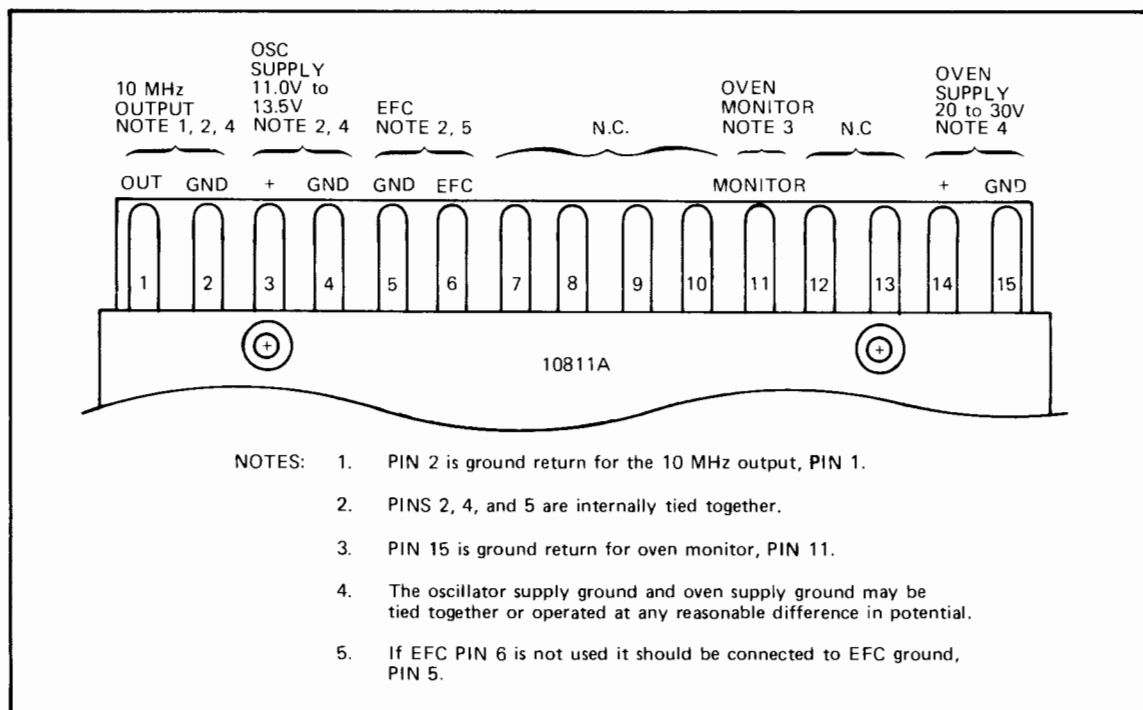
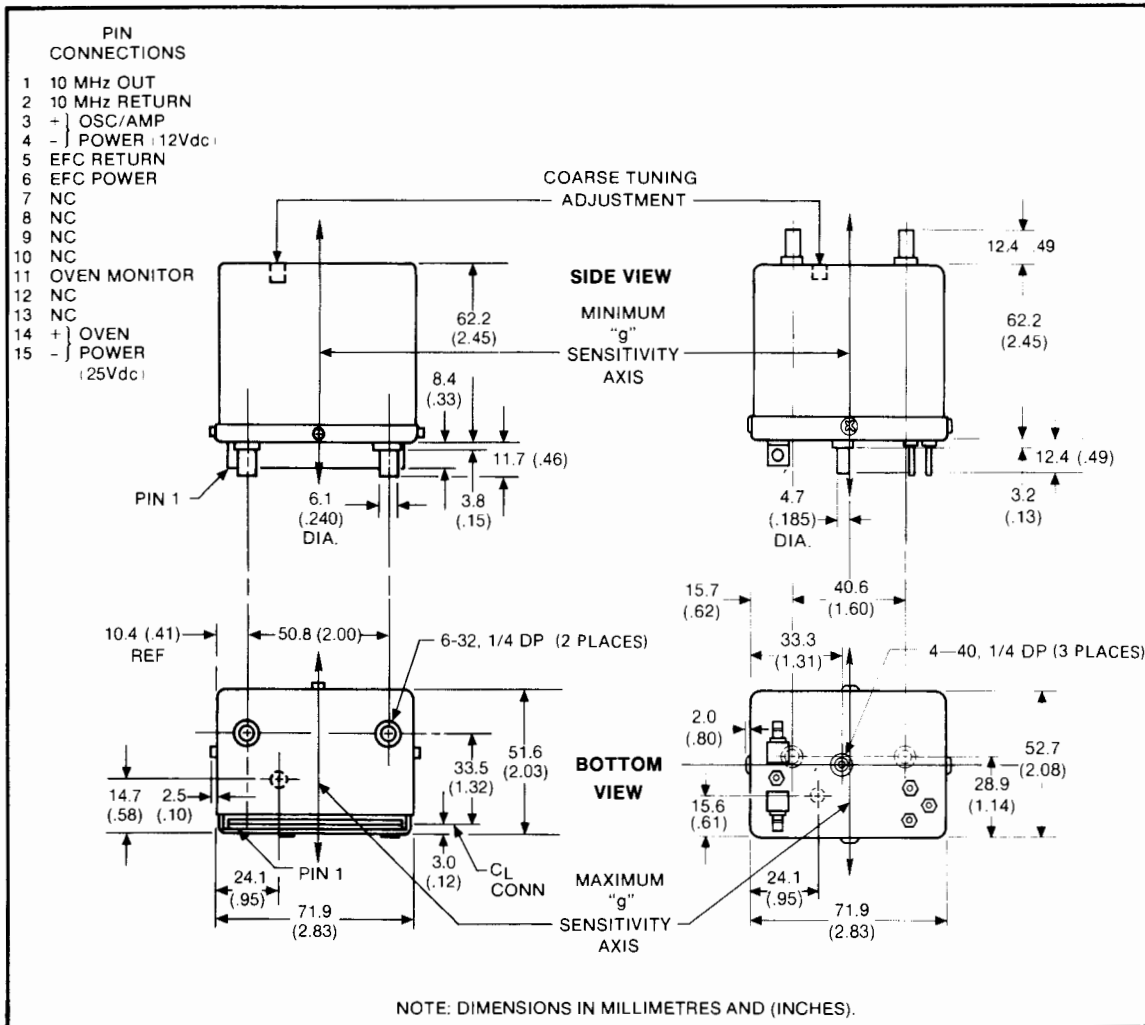

Figure 2-3. 10811A Supply and Output Connections
Figure 2-5. Mechanical Mounting Dimensions
2-21. The 10811A Oscillator requires a 15-pin printed circuit connector. The recommended connector is the CINCH 250-15-30-210 (HP 1251-0160). The 10811A can be secured with two 6-32 screws, 1/4-inch long. *Figure 2-3* shows the power supply connection for the 10811A. *Figure 2-5* shows the mechanical mounting dimension for the 10811A and 10811B.
2-24. Figure 2-5 shows the mechanical mounting dimensions of the 10811A/B Oscillators for use in custom installation. Since all quartz oscillators are sensitive to shock, vibration, radiation fields, and ambient temperature changes, to obtain the best performance from your 10811A/B, these factors should be taken into consideration. To optimize performance therefore:
1. The 10811A/B should be mounted in an area that has a minimum amount of vibration or shock accelerations. In addition, the 10811A/B should be mounted so that the vibrational forces act along the "minimum G sensitivity" axis shown in Figure 2-5.